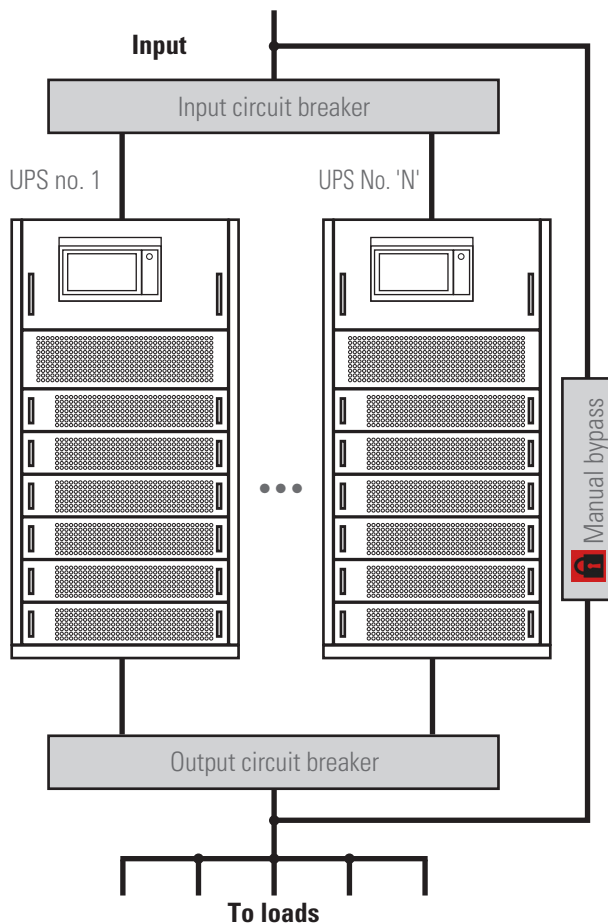
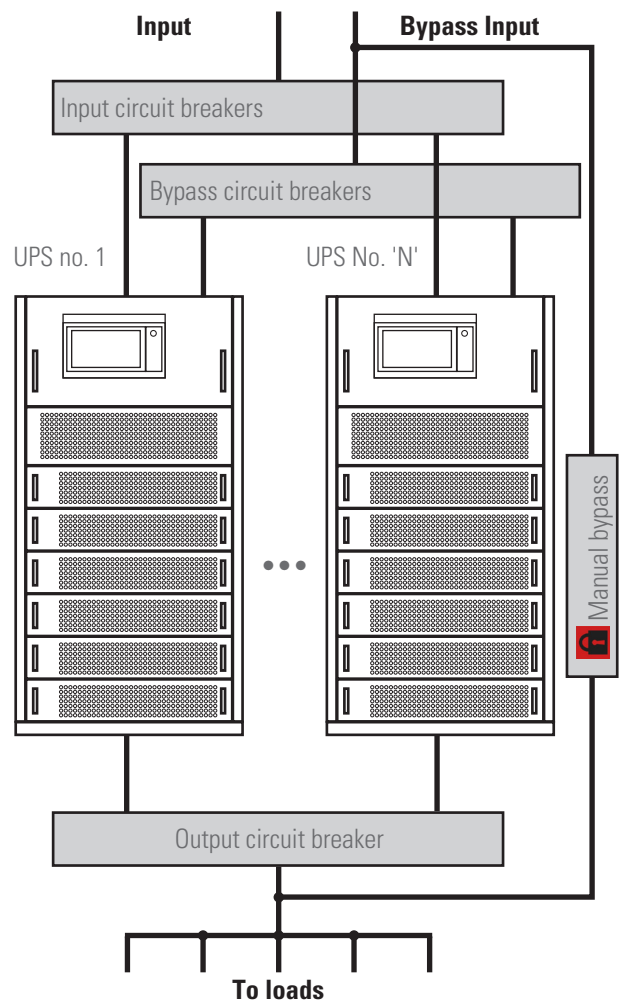

Fig. 26. Example of a parallel system, with a single AC network and manual bypass board.
Fig. 27. Example of a parallel system, with independent static bypass line and manual bypass board.
- Beyond the communication bus, it is necessary to provide the installation with parallel systems, a board provided with the individual input and output protections and a manual bypass with mechanical locking. See Fig. 26 or Fig. 27, depending on whether or not there is an independent static bypass line. For more information see the documentation for the "Recommended installation".